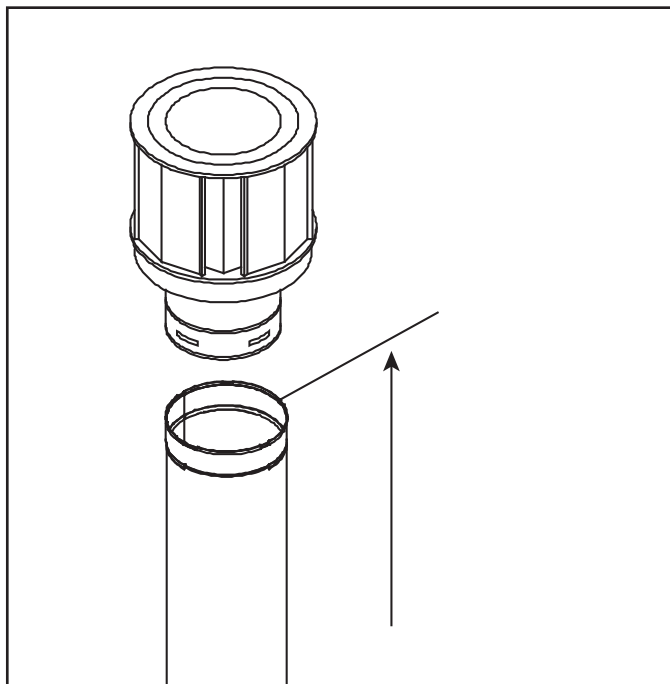

Figure 4.9 Measure to Top of Last Section of Pipe
- Vertical terminations are measured to top of last section of pipe. See Figure 4.9.